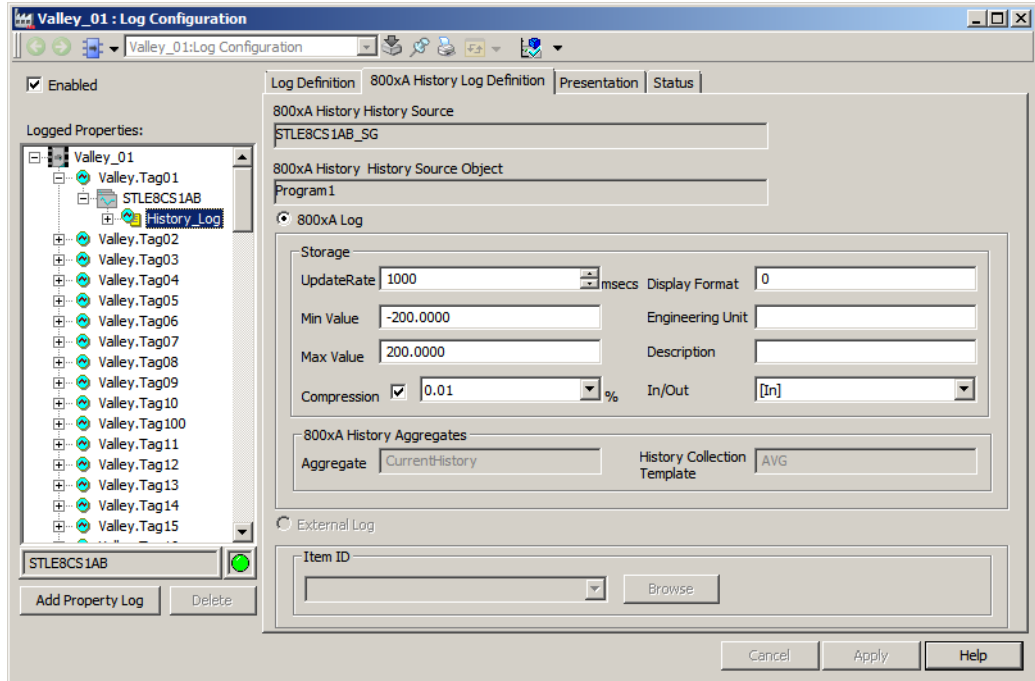

Figure 207. Log Configuration window
10. Browse and select the required log template. The **Log Configuration** window is displayed with four different tabs as shown in Figure 207.